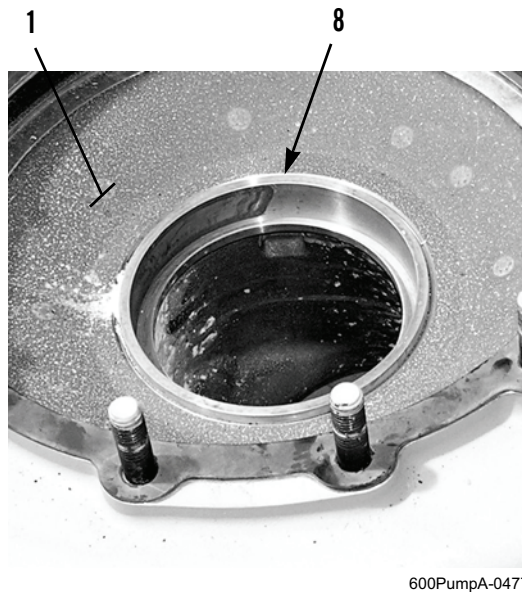

Figure 2. Pump Casing Wear Ring.
4. Inspect wear ring (Figure 2, Item 8) in bore of pump casing (Figure 2, Item 1) for excessive wear or scoring.
- a. If replacement is required, attempt to knock wear ring (Figure 2, Item 8) out of bore in pump casing (Figure 2, Item 1).
- b. If required, use a small bit to drill two holes horizontally through wear ring (Figure 2, Item 8), 180 degrees apart.
- c. Use a saw or chisel to complete cuts through wear ring (Figure 2, Item 8). Remove wear ring from bore of pump casing (Figure 2, Item 1). Discard wear ring.